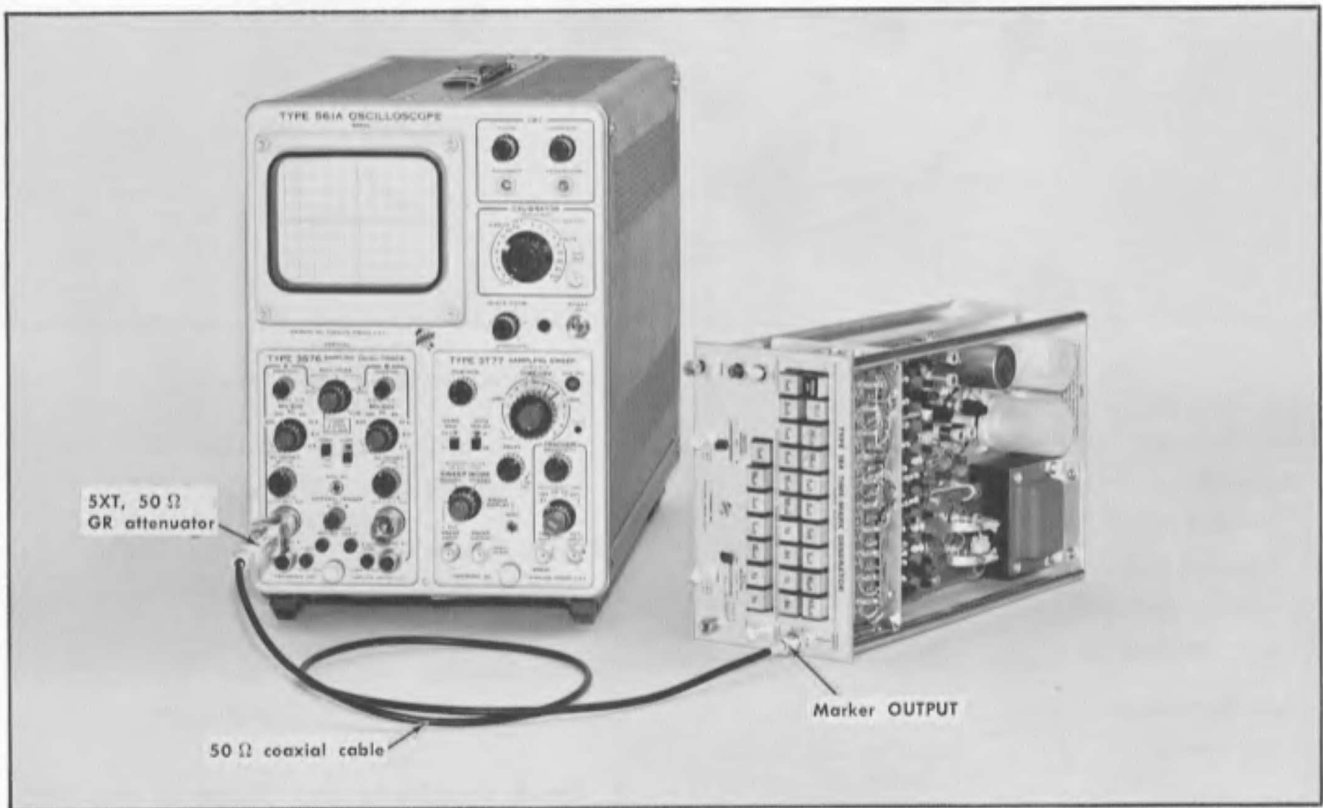

Fig. 6-17. Test equipment setup to check and adjust 10, 20 and 50 ns sine-wave markers. Step 10.
- a. Test equipment setup is shown in Fig. 6-17.
| 50 ns | 50 nSEC | L25, L26 (Fig. 6-17) |
| 20 nS | 20 nSEC | L15, L16, L35, L36 (Figs. 6-17 and 6-18) |